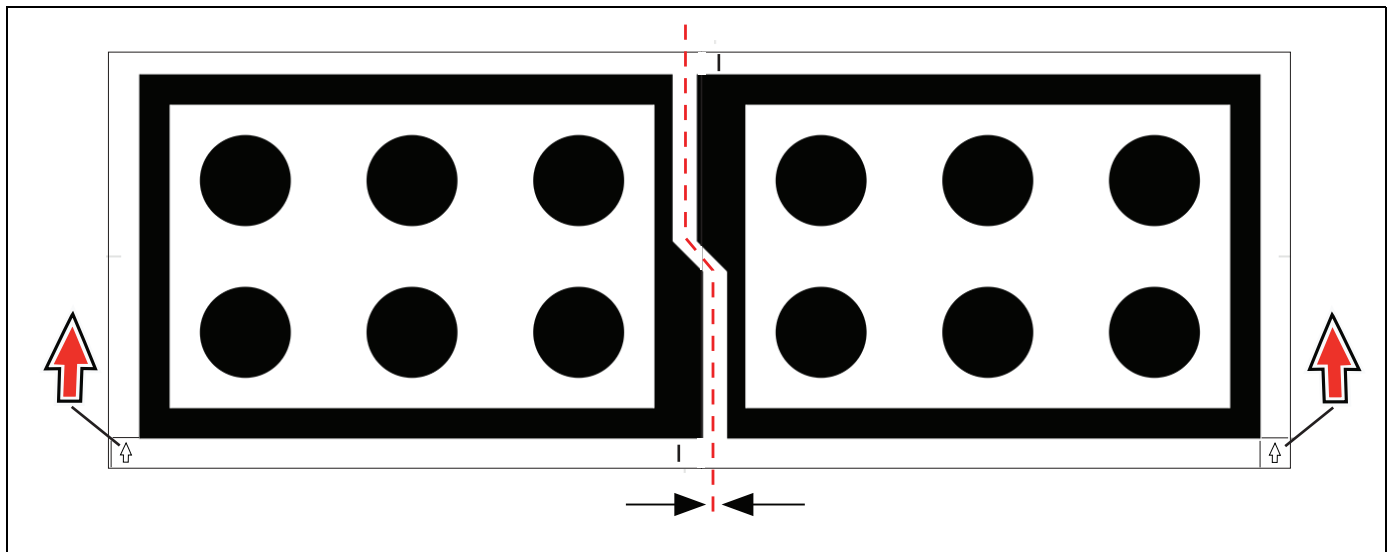
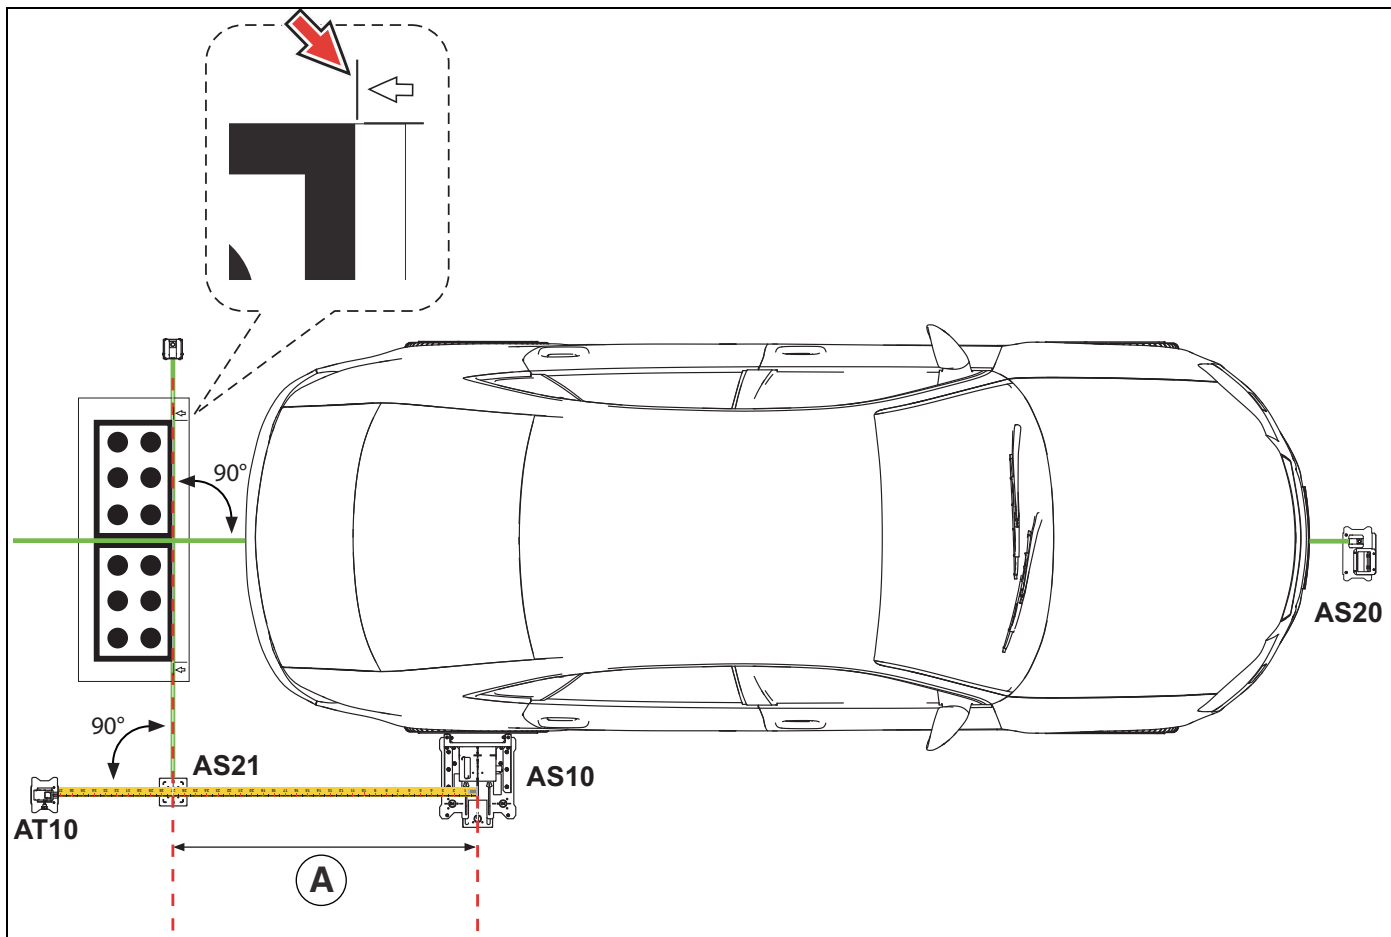

Figure 5-6
Figure 5-7
7. Assemble the two piece target on the floor behind the vehicle. The indicator arrows (on forward target edge) should face away from the vehicle (Figure 5-6 and Figure 5-7). Refer to Rear Camera Target Placement Instructions for the target part number.
8. Place the AS21 alignment plate under the tape rule aligning its center mark with the "A" distance value on the tape rule (Figure 5-7).
9. Remove the laser assembly from the AS10 fixture and position it on the floor to align the forward edge of the target to the center mark on the AS21 alignment plate ("A" value on the tape rule) (Figure 5-7).
10. Simultaneously align the target centerline to the AS20 laser, and the forward target edge at distance "A" with the other laser (Figure 5-7). Move target as needed until (parallel and perpendicular) alignment is achieved as shown in Figure 5-7.